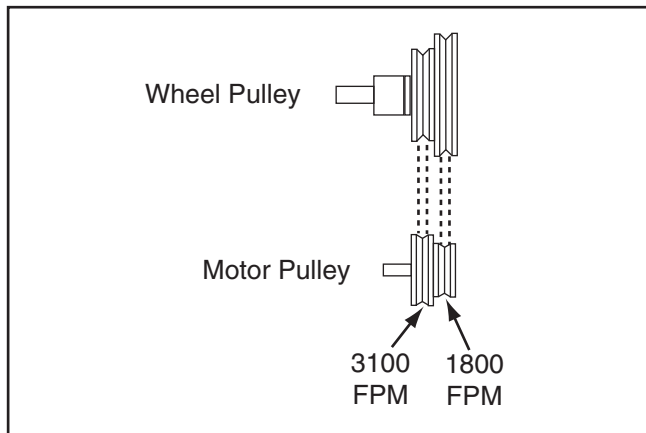

Figure 45. Belt positions for different speeds.
4. Position the belt in the pulley grooves needed (see **Figure 45**) for the desired speed.